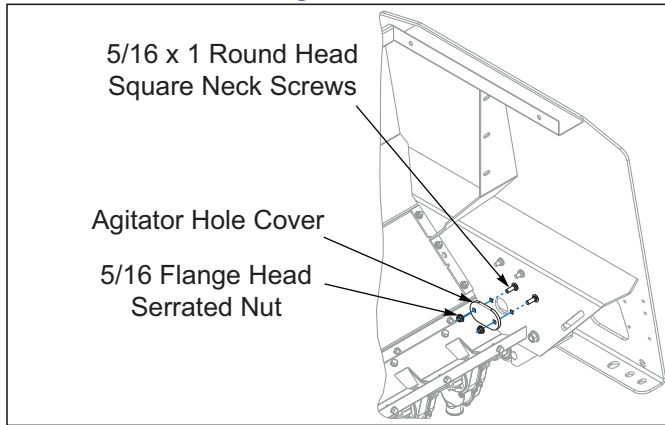

Figure 3-7: Agitator Hole Covers
2. Remove the agitator hole covers inside of the seed boxes. **See Figure 3-7.**